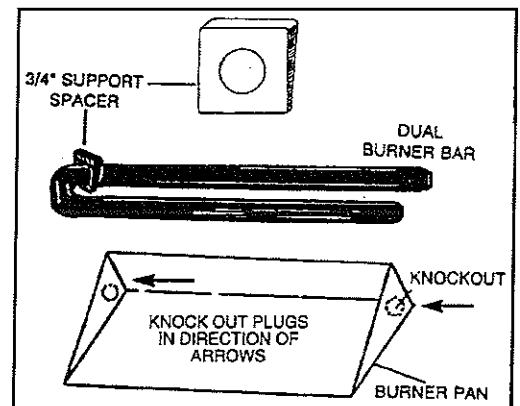

Figure 5 - Burner bar placement
- Slide the 3/4" burner support spacer (Part #10) over the Dual Burner Bar (Part #9) and move spacer to opposite corner of the gas intake connection (See Figure 5).